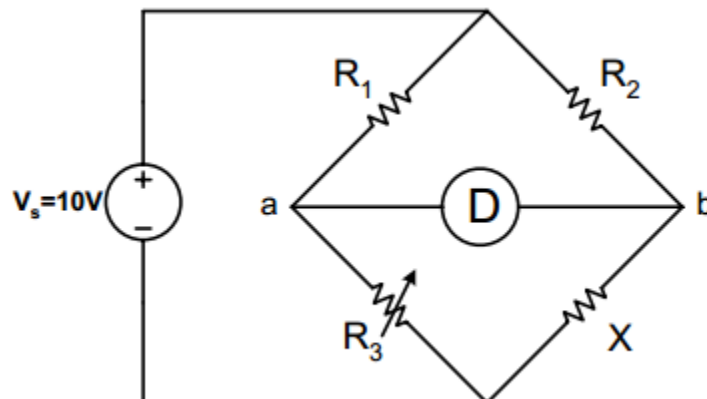

Figure 2.1 (Wheatstone Bridge)
A simplified Wheatstone bridge circuit is shown in Figure 2.1. In the figure, R_1 , R_2 and R_3 are adjustable resistances and X is the unknown resistance. You are required to measure the unknown resistance X .
1. Connect the power supply and resistances as shown in figure 2.1.